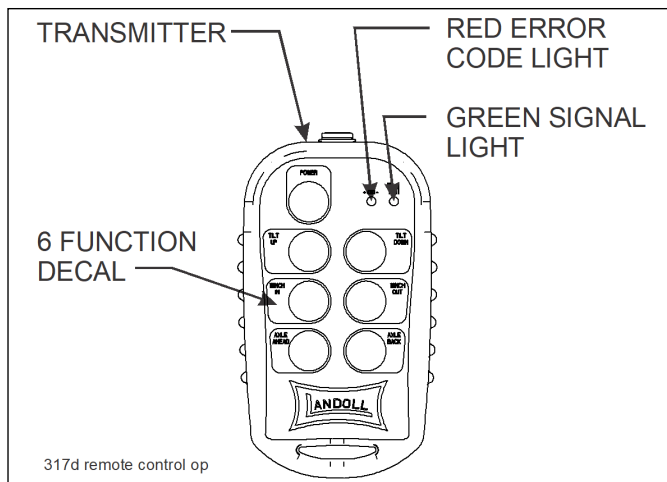

Figure 3-10: Remote Control Transmitter
1. A wireless six function radio remote control is available (**See Figure 3-10.**)